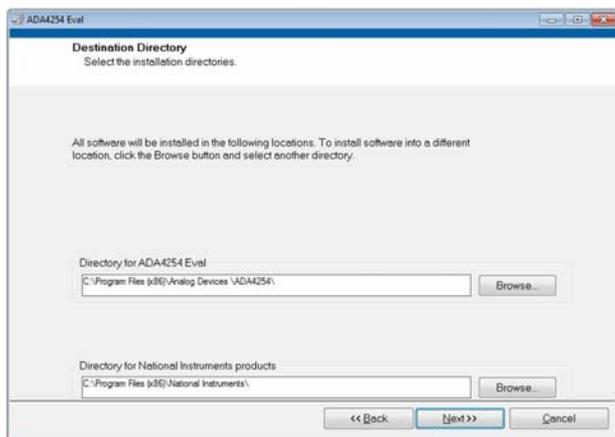

Figure 8. Destination Directory Window
4. Choose the installation directory in the **Directory for ADA4254 Eval** field and click **Next >>** (see Figure 8). The default installation directory location is **C:\Program Files (x86)\Analog Devices\ADA4254\**.